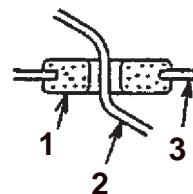

Fig. 1
- (g) Clamp all wires securely in locations away from moving parts or sharp corners on the chassis and body. Use grommets whenever routing wires through metal plates in order to prevent electrical short circuits due to installation damage. (Fig. 1)